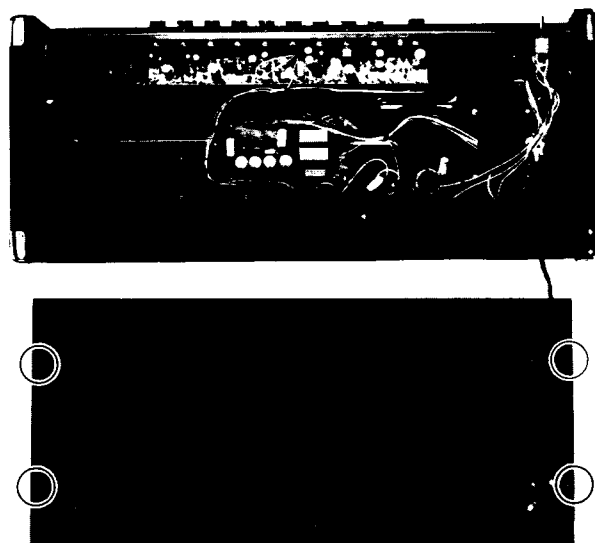

Fig. 3
2. Remove the 4 screws shown in Figure 3.